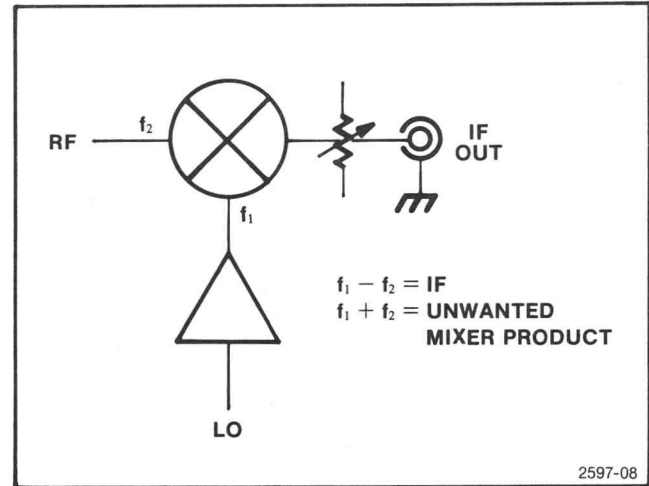

Fig. 3-4. Block diagram of the RF Mixer board, A6.
The RF Mixer board (A6) contains a Local Oscillator Amplifier, the Mixer circuit and a limited range variable attenuator (see Fig. 3-4). The RF signal is mixed with a local oscillator (LO) signal, to produce the intermediate frequency (IF). The IF signal is equal to the difference between the local oscillator and the RF signal.